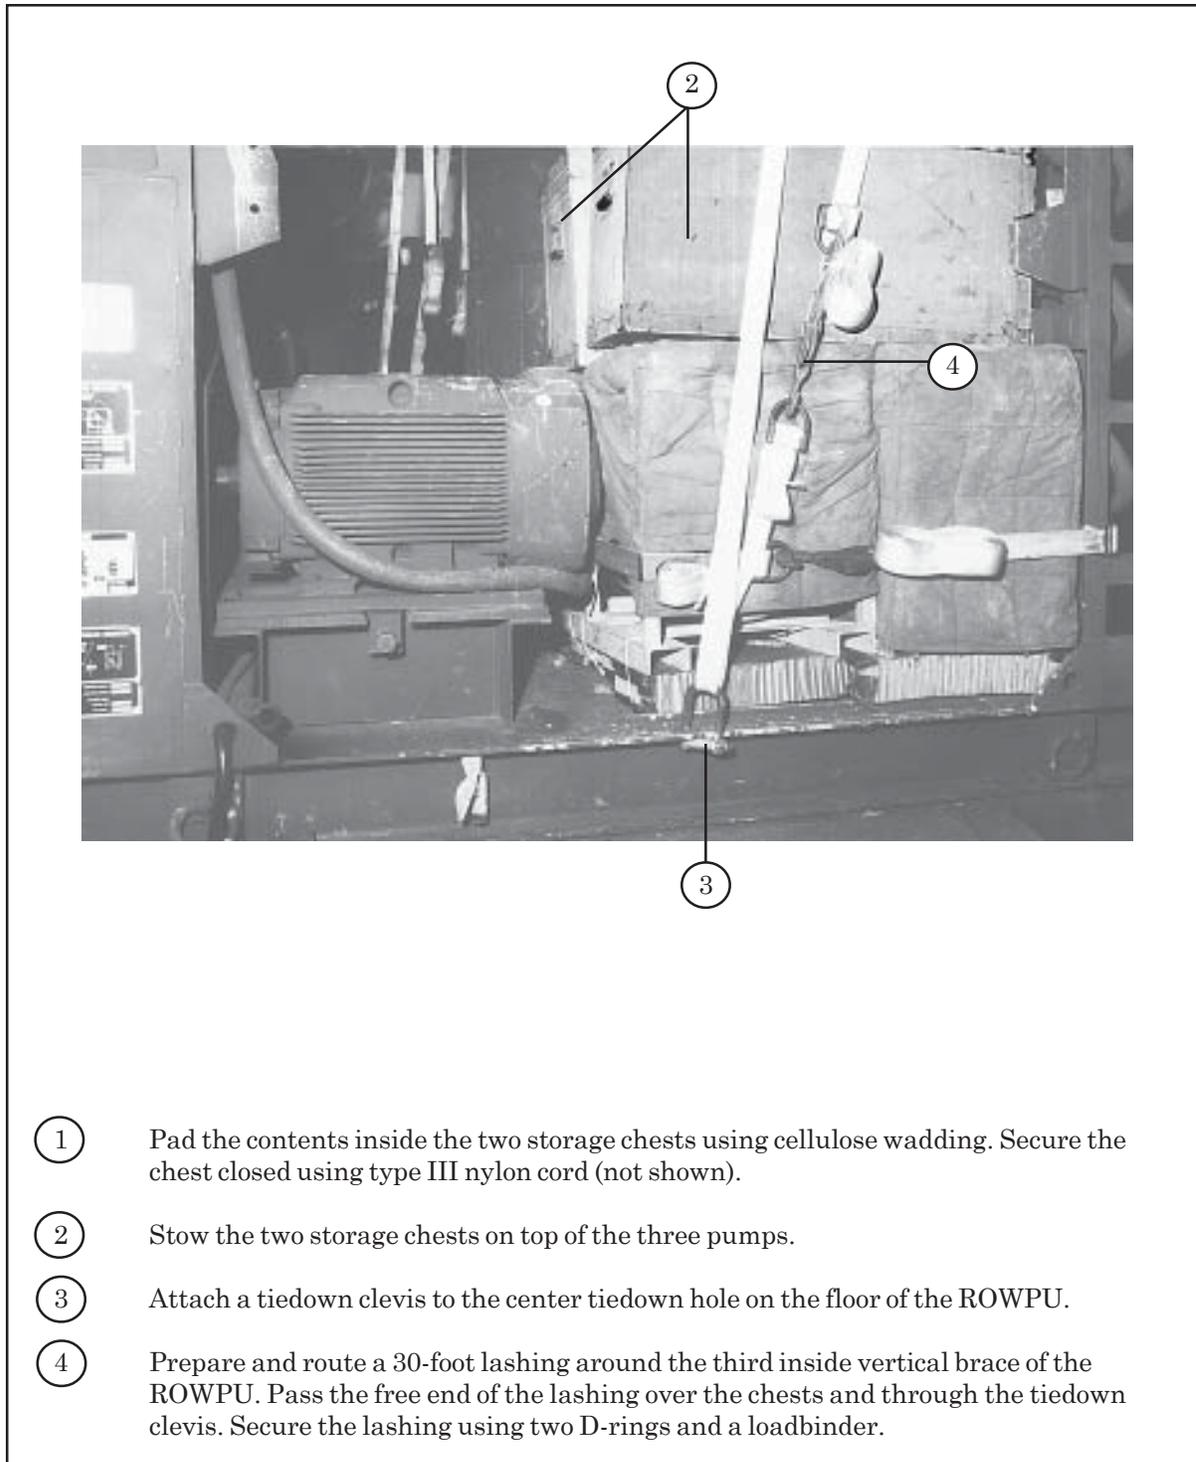

Figure 1-18. Storage Chests Prepared, Stowed and Secured
- n. Prepare, stow and secure the two storage chests as shown in Figure 1-18.